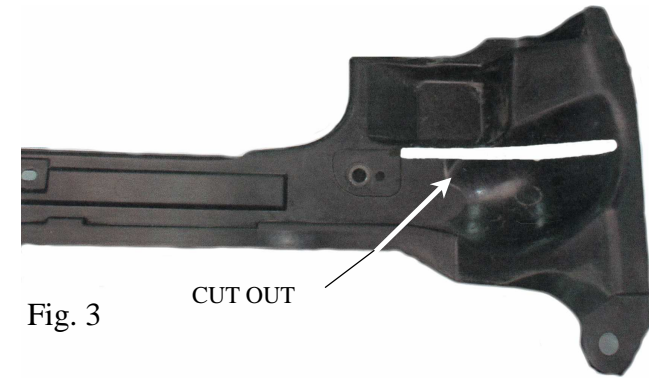

Fig. 3
6. Reassemble the plastic covers- cut left one according to the fig. 3.
7. Position the ball of towbar (pos. 2) with socket plate (pos. 3) and fix with M12x75mm (pos. 5) screws from the towbar accessories.